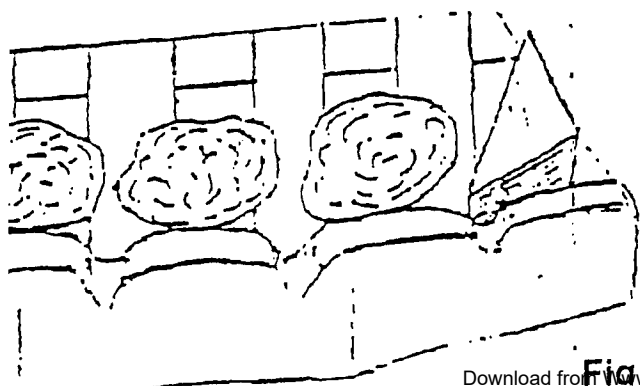

Fig. 11
1. Place 3 medium round between the simulated coal front and the support shelf with 1 triangular coal placed on either side of this row. Fig 11.